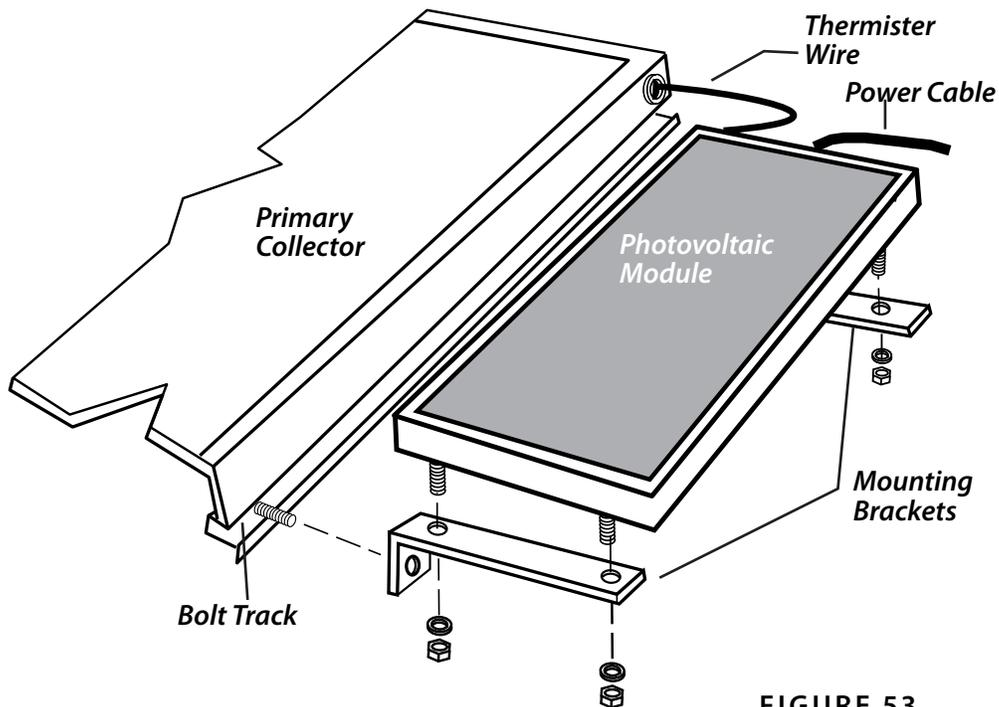

FIGURE 53
The 20W Photovoltaic Module (**Figure 53**) is mounted to the Primary Collector and powers the SUNWARD Solar Pump.
3. Position the Photovoltaic Module as close to the top right hand corner of the Primary Solar Collector as possible as shown in Figure 53.